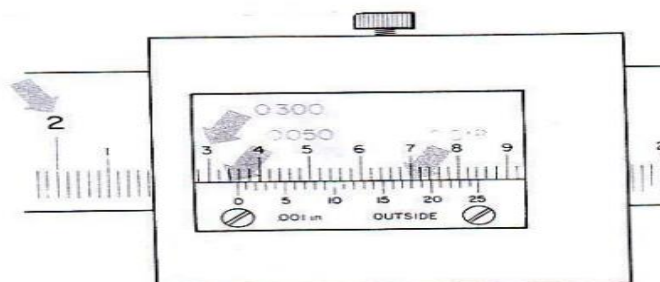

Figure 2.10 Venire Caliper
- Rule consists of the slide that fits over the rule. A distance on the slide of six-hundred thousandths (0.600) of an inch is graduated into 25 equal parts so that each division measures twenty four thousandths (0.024) of an in. Fig. 2.10. The graduations on the rule itself are twenty-five thousandth (0.025) of an inch, so in a distance of 600 there are 24 divisions on the rule. The difference in the size of the division on the rule and those on the venire scale is one thousandth (.001) of an inch.